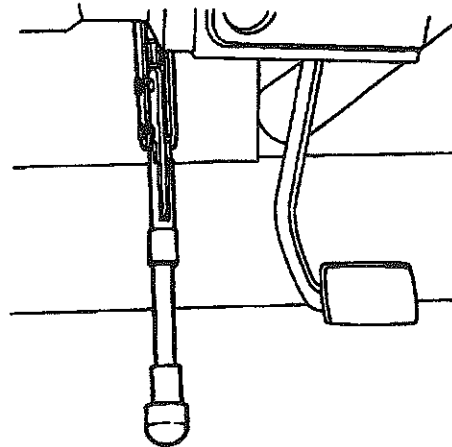

Figure 2 – Apply Parking Brake
2. Apply the parking brake (Figure 2).